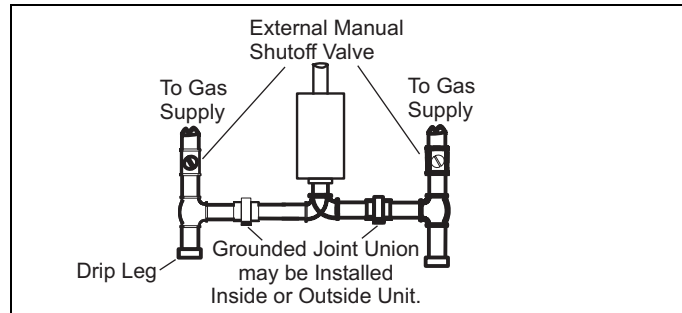

FIGURE 8: Gas Piping
2. Check that the manual gas shut-off valve in the gas piping supply is turned to the ON position. Refer to Figure 8.